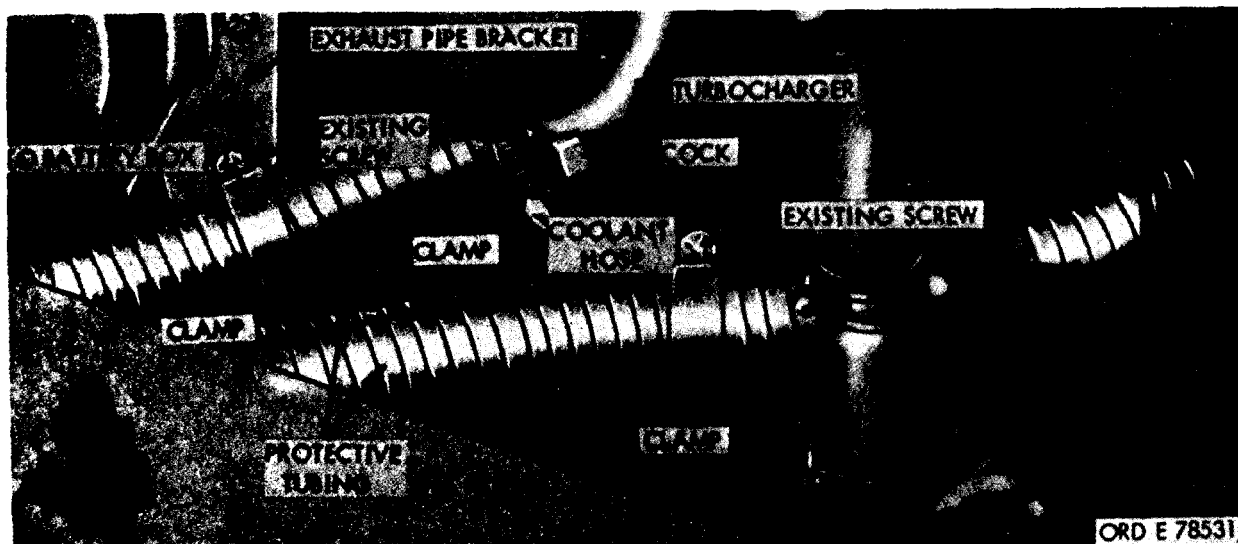

Figure 705. Coolant hoses installed.
- (14) Route assy under supercharger to right side of flywheel housing and into battery compartment. Connect end of hose to elbow on top of heater and secure with clamp MS 35842-2.
- (15) Remove bottom left screw from oil pressure regulator. Secure hose and tube assy to oil regulator assy with clamp 8707524.
- (16) Drill a 5/16 in. dia. hole through both sides of lower right cab support, 7/8 in. from bottom and 3/4 in. from edge (fig. 705). Secure hose and tube assy to inside surface of cab support with clamp 8707524, screw MS 35292-8, washer, MS 27183-10 and nut MS 51922-5.
- (17) Replace coolant in radiator.